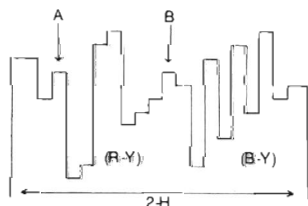

Figure 6. Pin 24 Waveform
- 4) Adjust SL506 so that the DC LEVEL of the parts A,B (figure 6) may coincide.